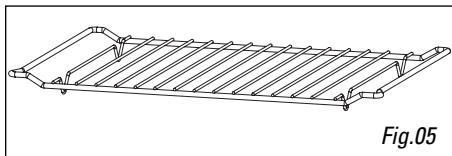

Fig.05
- **The grill (Fig.05):** may be used to toast, brown or grill. The grill must under no circumstances be used with other metal containers in the microwave, grill + microwave. You may, however, heat food in an aluminium tray by using a plate to separate it from the grill.